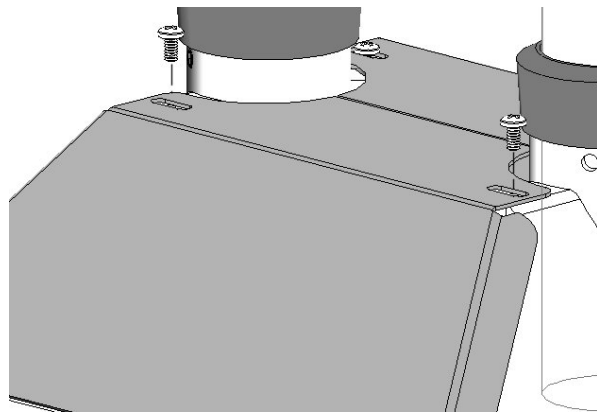

Figure 6. Install Base Covers
4. Install two base covers and secure using four 10-24 X 3/8"Phillips screws (see Figure 6).